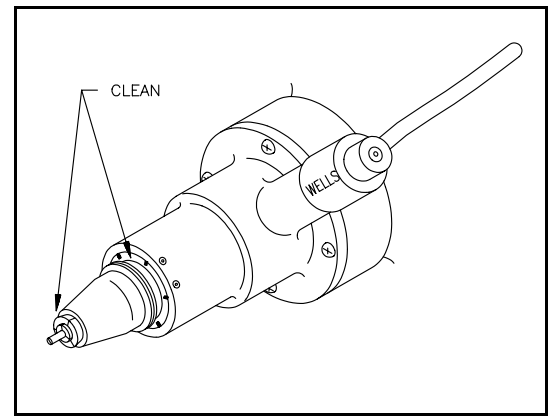

Figure 3.
- 2.2 Clean around the collet, collet body and threads with a small brush or rag. See Figure 3.